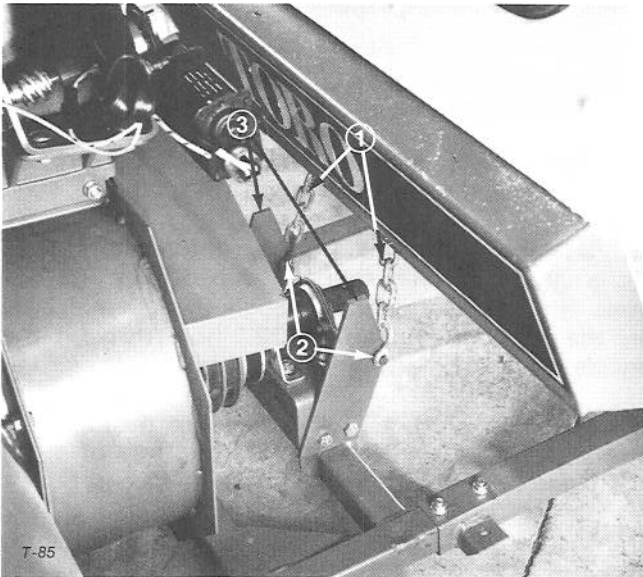

Figure 12
2. Lower lift chains and install clevis from adapter kit onto end link of one chain and retain clevis used with cutting unit on other (Fig. 12).
3. Install each clevis onto lifting lugs and secure with clevis pins (Fig. 12). Secure pins with hairpin cotter on cutting unit clevis and cotter pin on kit clevis (Fig. 12).